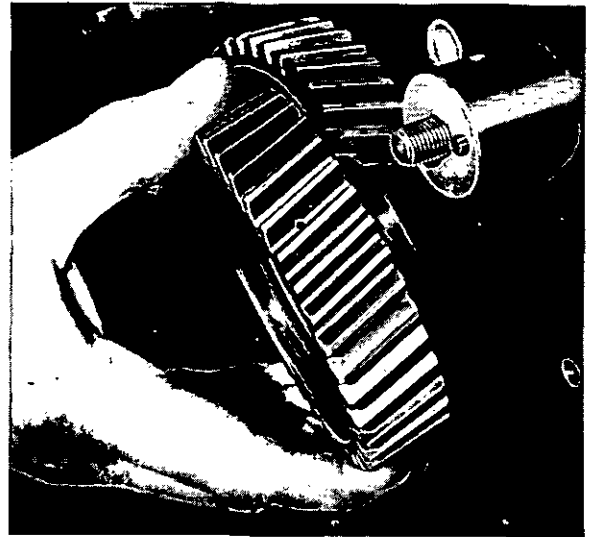
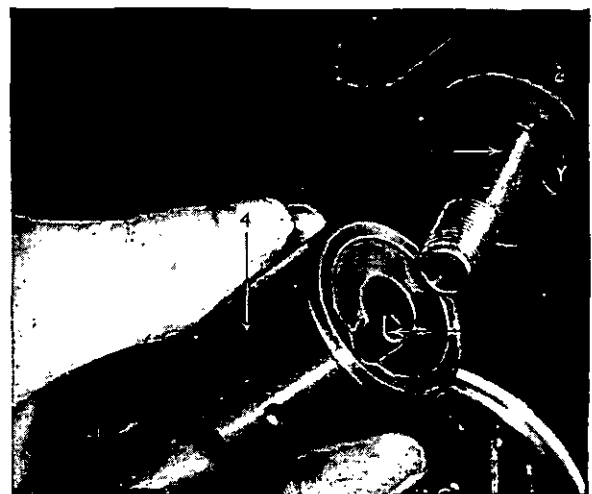

Fig. J.6. Removing Idler Gear.
Fig. J.7. Removing Idler Gear Hub.
3. Withdraw the retaining plate and the idler gears (Fig. J.6). Withdraw the hubs (Fig. J.7).